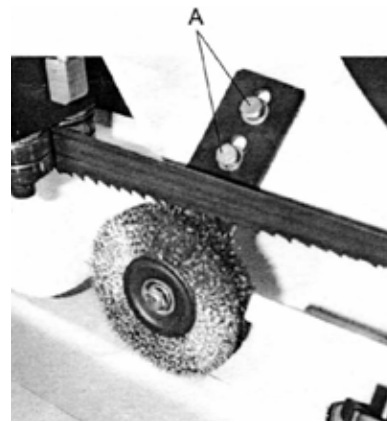

Figure 12. Chip Brush
- Loosen bolts (Figure 12, **A**).